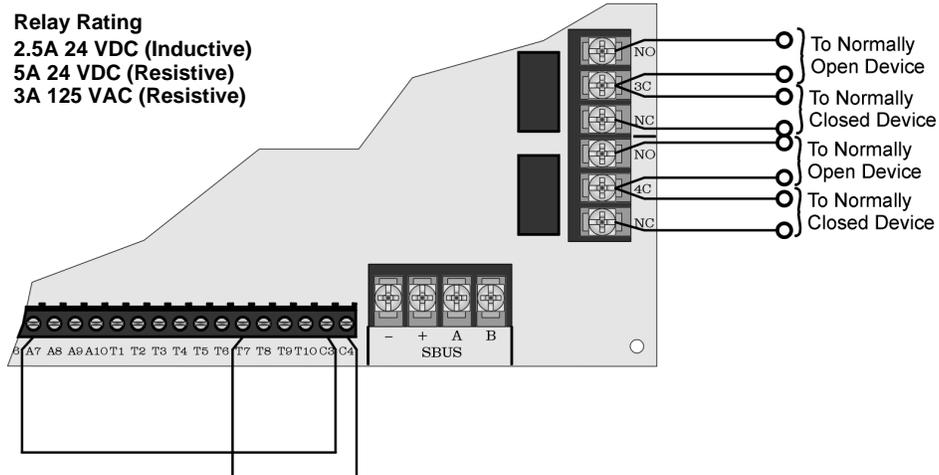

Figure 3-18 Relay Wiring on the IOM-410
The four on-board relays can be triggered by the active low outputs. For example, the alarm outputs can all be wired to relay 3 and the trouble outputs can be wired to relay 4 (see Figure 3-18).
*Note: Figure 3-18 uses A7 and T7 to activate relays 3 and 4 as an example. However, any of the outputs can be used to trip any of the relays.*